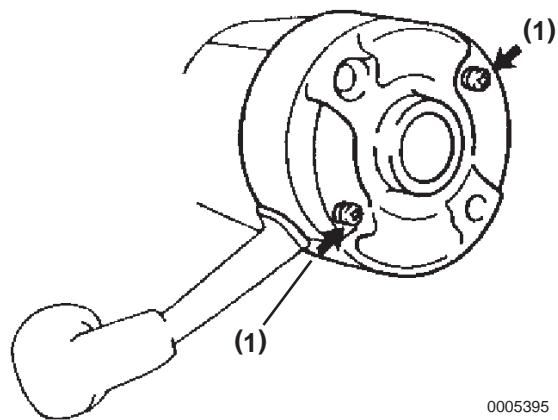

Figure 10-8
6. Remove the 2 screws (Figure 10-8, (1)) and end cover from the field frame.